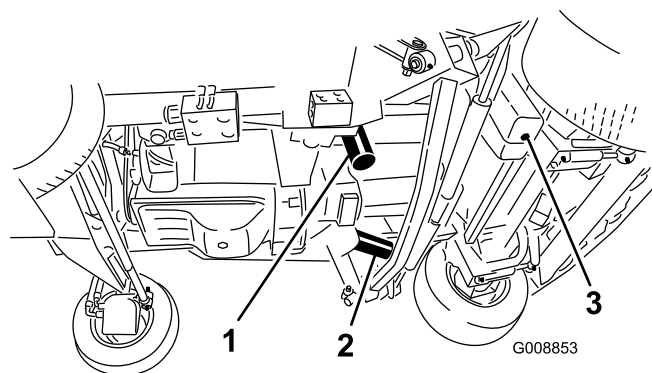

Figure 90
3. Remove the drain plug (Figure 90) from the bottom of the tank and let the hydraulic fluid flow into the pan. Install the drain plug when the hydraulic fluid stops draining.
4. Clean the area around the filter mounting areas. Place a drain pan under the filter and remove the filter (Figure 90).